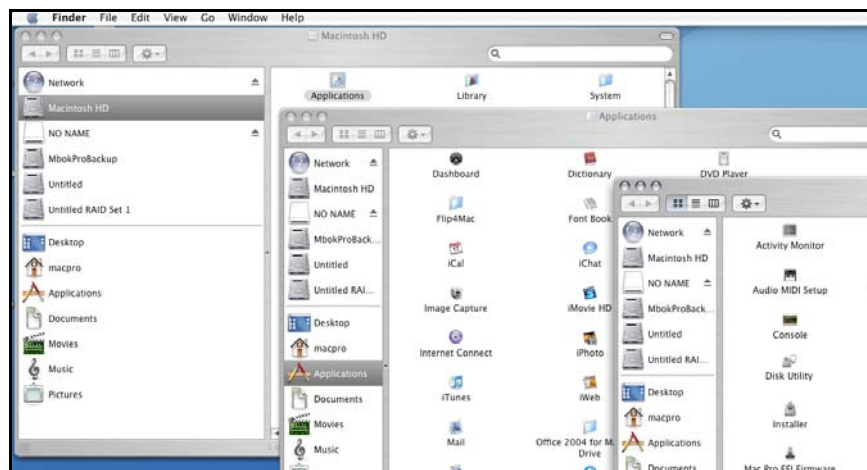

Figure 7: Locating Apple's *Disk Utility*
- d) Double click the *Disk Utility* icon (See Figures 7 and 8 for examples)